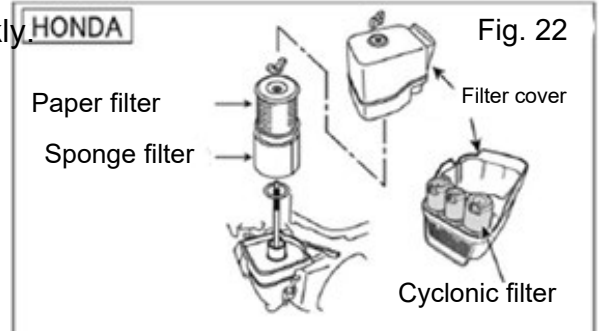

Fig. 22
1. A dirty air filter may cause the engine to start poorly and not develop sufficient power. This can negatively impact machine performance and significantly shorten engine life. Clean the filter regularly. If the filter is impossible to clean, replace it with a new one. (Fig. 22)
3. Unclip the dust container latch and remove it. (Fig. 22) Clean the inside of the container with water and a neutral detergent. Then install the air filter container and securely fasten the latch. (Fig. 22)